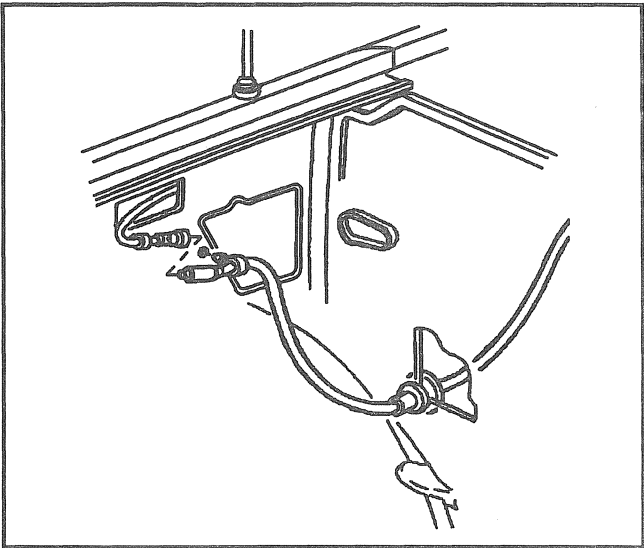

Figure 22—Antenna Extension Cable Routing to Antenna
4. Extension cable from antenna (Figure 22).
- 3. Extension cable to antenna (Figure 22).